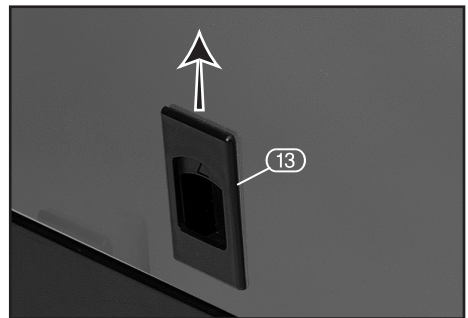

FIG.4
8.5 INSTALLING THE FILLER WIRE (MIG WELDER) - FIGS. 4 - 12